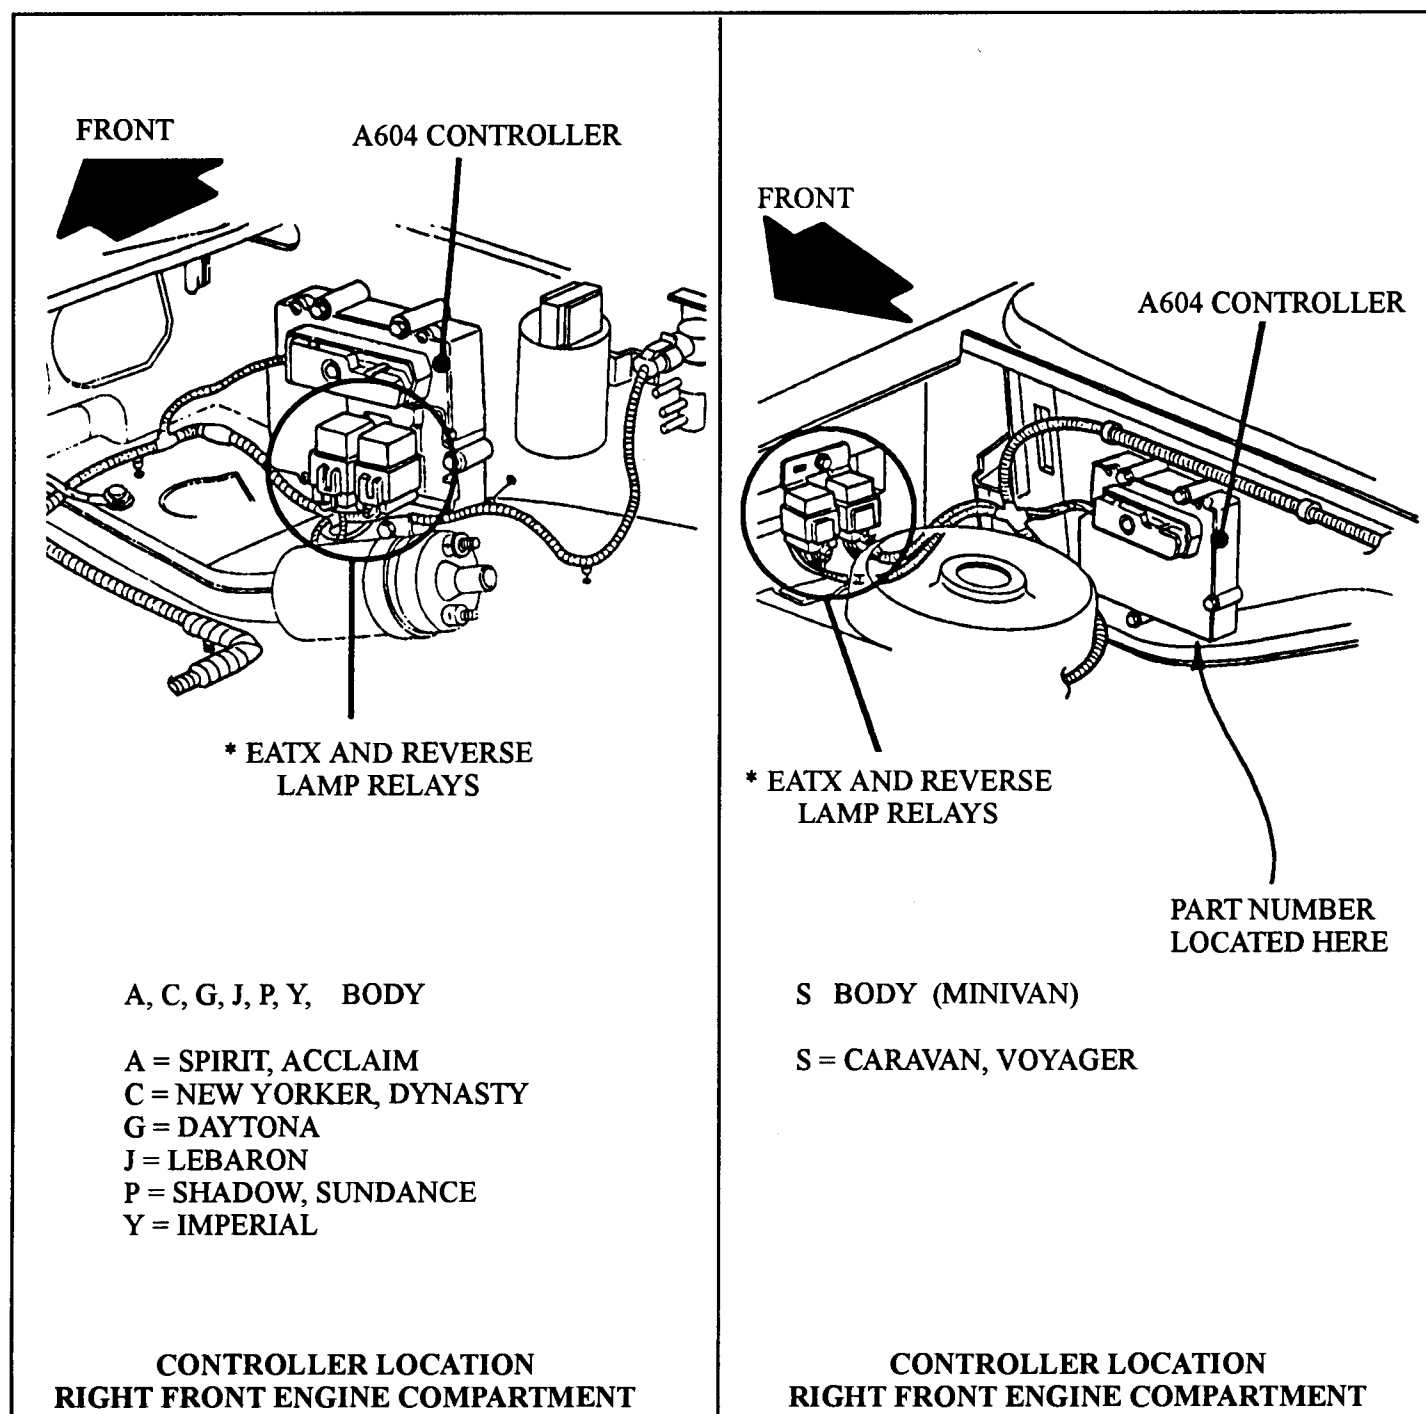

Figure 8
- (1) **TRANSAXLE CONTROLLER** - Controllers can be identified by the OEM part number that is printed on a sticker. This sticker can be located on the bottom of the transaxle controller as shown in figure 8. If the sticker is missing, scanners will also provide controller identification by providing the OEM part number of the controller that is in the vehicle. Refer to the chart on the following page for a brief overview of past controllers.
The locations of the controllers will vary depending on the model of the vehicle. Refer to figure 8 for the different locations. Figures 8 and 9 also shows the locations of the EATX relay, as their location will vary depending on the model of the vehicle.